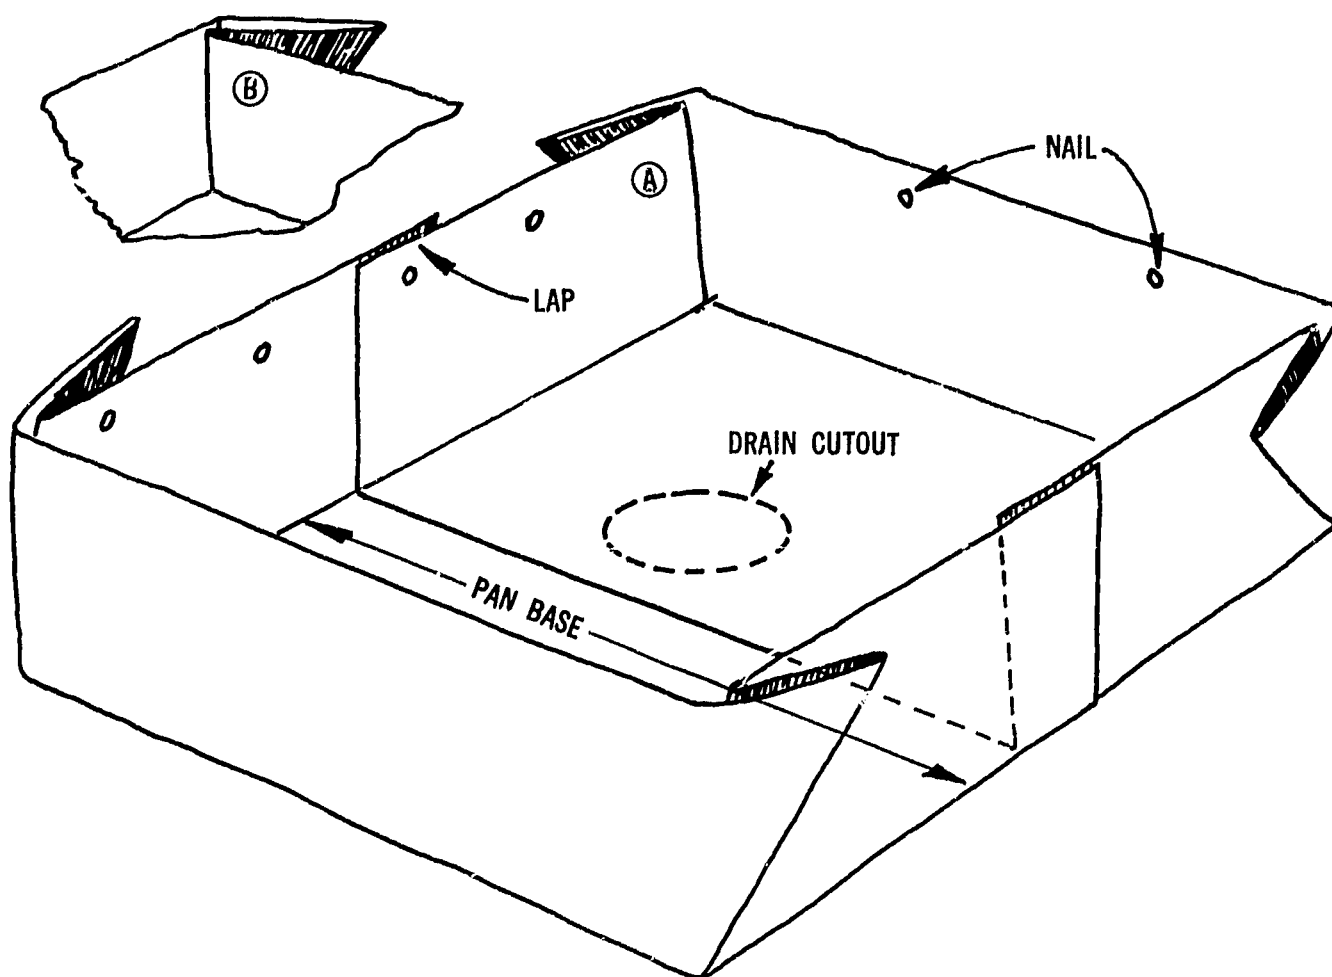

Fig. A-30. Construction of shower pan
When a shower stall is installed over a cement base, the procedure is the same as described for floors and walls. When the shower stall is installed over a wooden base, however, the following procedure for folding and applying a 3-ply felt shower pan should be used (Figs. A-30 and A-31):
- Cut and fold as shown in Fig. A-30.
- Measure, cut, and fold next pan, making the joint, or lap, cross the first joint at right angles. Make all corners to fold in opposite direction to first pan's corners (Fig. A-30, points "A" and "B"). The corners are folded in this fashion to reduce thickness. Install pan in manner previously described.